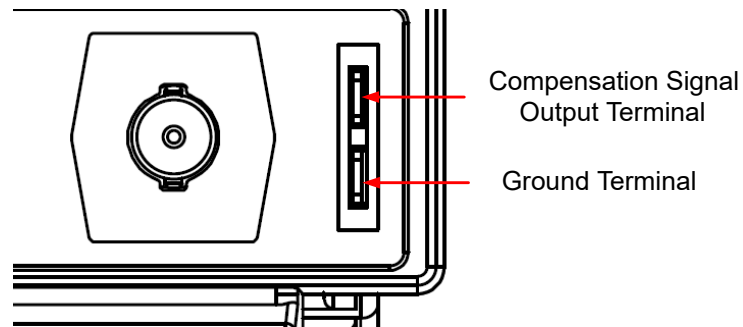

Figure 4.7 Using the Compensation Signal
2. Connect the ground alligator clip of the probe to the "Ground Terminal" as shown in Figure 4.7.
3. Use the probe to connect the input terminal of CH1 and the "Compensation Signal Output Terminal" of the probe, as shown in *Figure 4.7*.